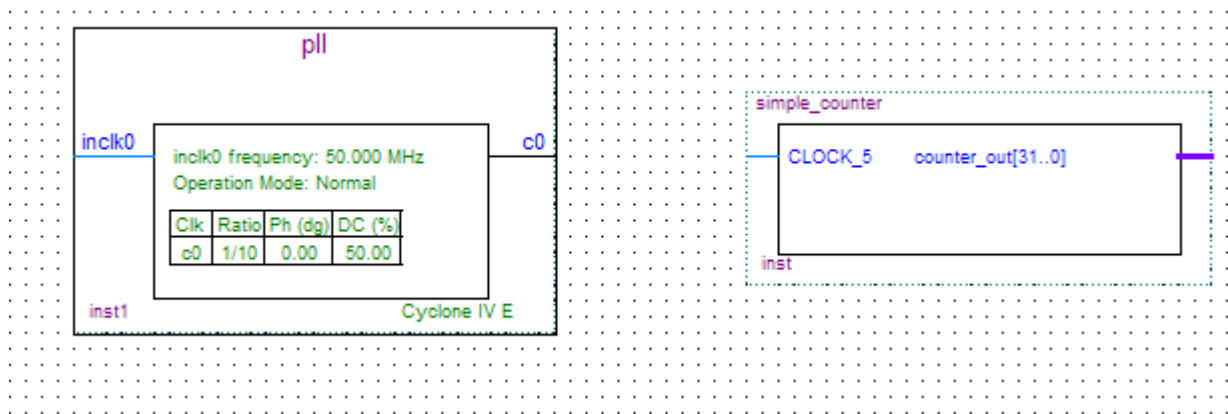

Figure 6-26 Place the PLL Symbol
11. Click **OK** and place the pll symbol onto the BDF to the left of the simple_counter symbol. You can drag and drop the symbols, if you need to rearrange them. See **Figure 6-26**.